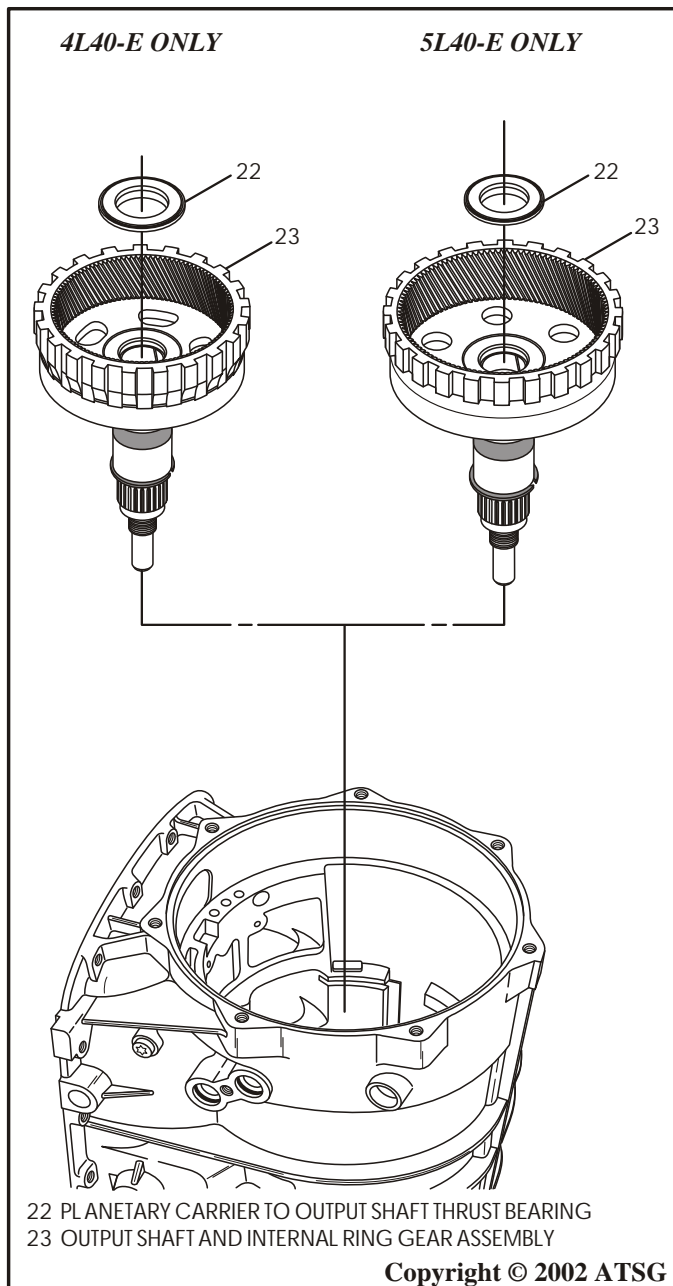

Figure 174
1. Install the pre-assembled planetary internal ring gear and output shaft, along with the thrust bearing, as shown in Figure 174.
**Note:** *We have illustrated both the 4L40-E and the 5L40-E in Figure 174.*